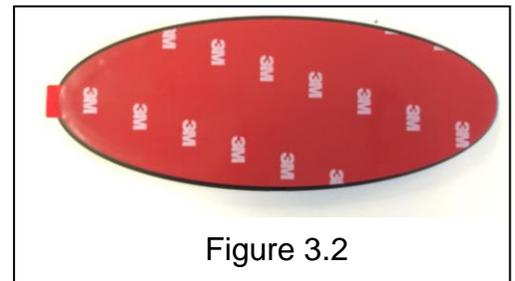

Figure 3.2
3. Peel one side of the 3M tape and install it on the emblem. Center on emblem and apply pressure. Figure 3.2 shows an example of properly positioned 3M tape.